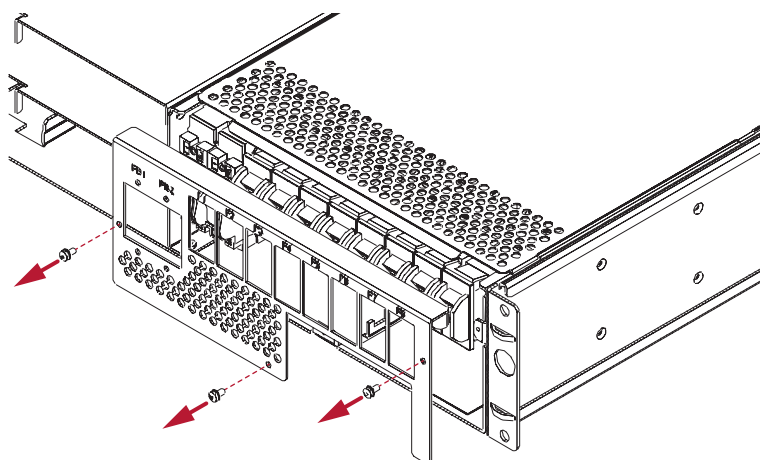
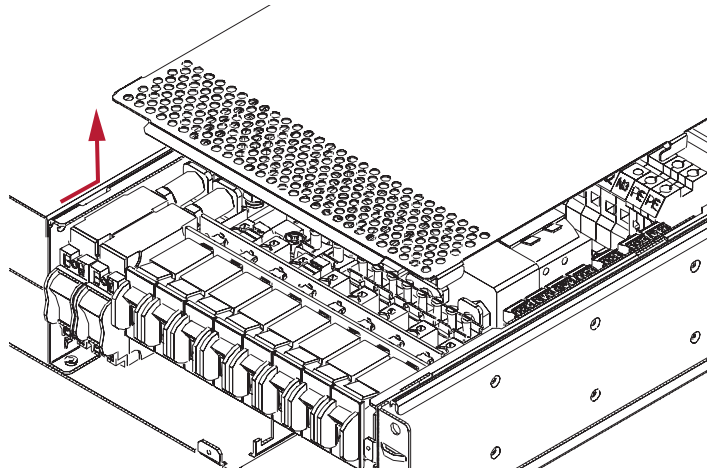

Figure 7-5 Removing the front panel
Figure 7-6 Removing the top cover
1. Unscrew the three retaining screws and then remove the front and the top covers see Figure 7-5 and Figure 7-6.